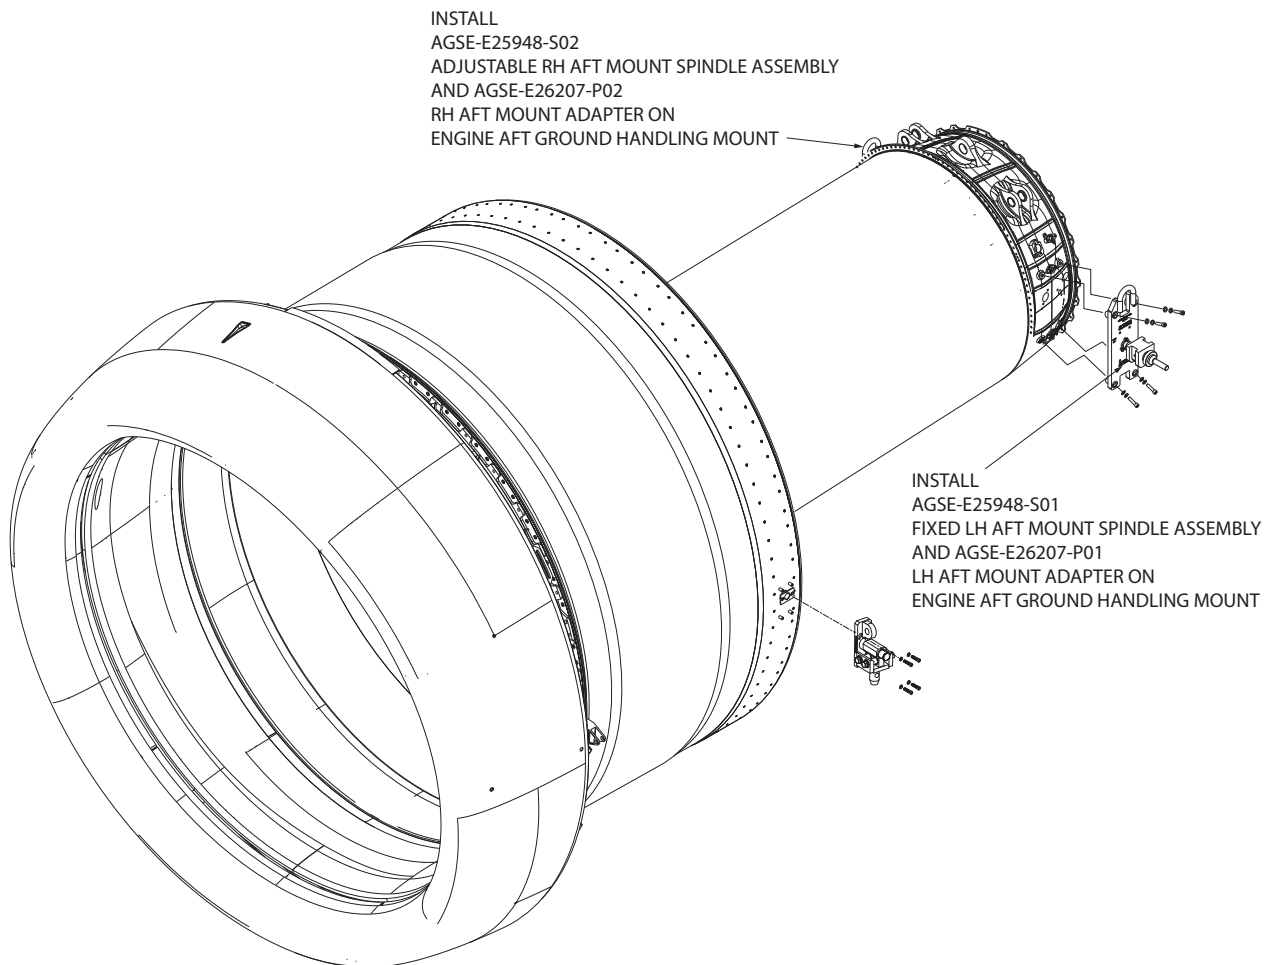

Figure 5.2-1
- 3) Remove the AGSE-E25960-S1 FWD mount adapter (LH) and AGSE-E25960-S2 FWD mount adapter (RH) from the AGSE-E26297-S01 storage box and install on the FWD engine ground handling mounts using eight (8) 5/16" socket head hex cap screws, eight (8) 5/16" lock washers as shown in Illustration Figure 5.2-1.
- 4) Remove AGSE-E25948-S03 LH AFT mount spindle assembly, AGSE-E25948-S04 RH AFT mount spindle assembly, AGSE-E26207-P01 LH AFT mount adapter, and AGSE-E26207-P02 RH AFT mount adapter from the storage box and install on the engine AFT ground handling mounts using the hardware provided. (Illustration Figure 5.2-1).
- 8) Remove the AGSE-E25960-S1 FWD mount adapter (LH) and AGSE-E25960-S2 FWD mount adapter (RH) from the AGSE-E26297-S01 storage box and install on the FWD engine ground handling mounts using eight (8) 5/16" socket head hex cap screws, eight (8) 5/16" lock washers as shown in Illustration Figure 5.2-1.
- 9) Remove AGSE-E25948-S01 LH AFT mount spindle assembly, AGSE-E25948-S02 RH AFT mount spindle assembly, AGSE-E26207-P01 LH AFT mount adapter, and AGSE-E26207-P02 RH AFT mount adapter from the storage box and install on the engine AFT ground handling mounts using the hardware provided. (Illustration Figure 5.2-1).